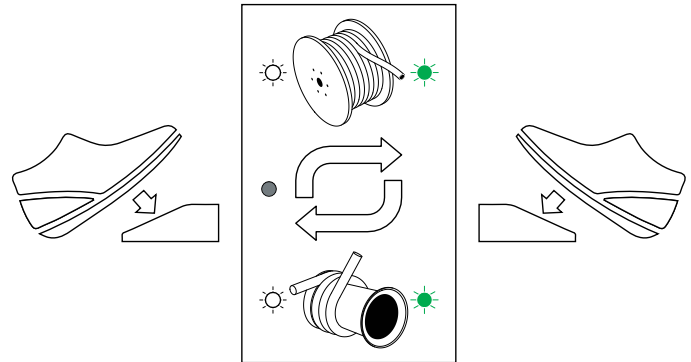

Figure 13
- Depress the foot switch on the puller/feeder, the green Endpoint LED will light up next to the Puller or Feeder icon.(Fig.13)